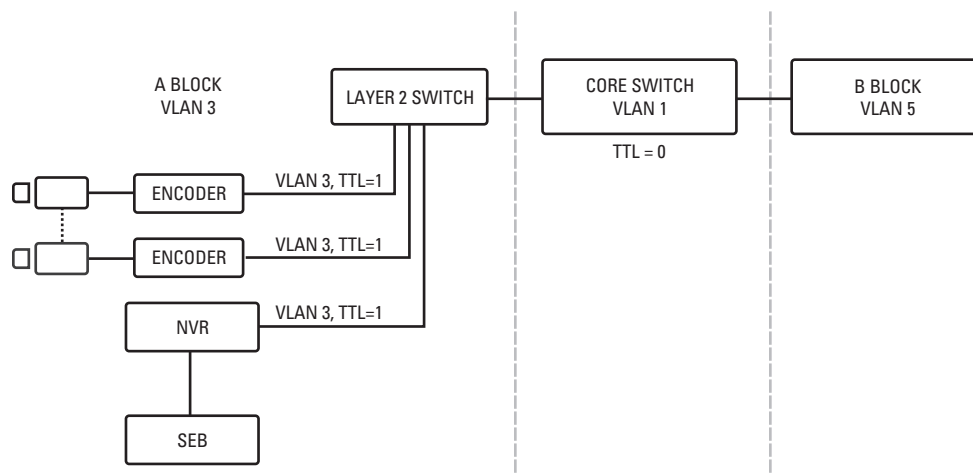

Figure 3. TTL Is Set to 1 in VLAN 2 and Keeps UPnP Traffic Within the A Block
- **UPnP traffic:** The TTL is set to 1. In this case, each block is assigned to a specific VLAN, keeping UPnP traffic isolated within that block (refer to Figure 3).
Figure 3 illustrates how the broadcast traffic is localized to A Block 1 in broadcast domain 1. In this case, the broadcast traffic from VLAN 1 never traverses the network because TTL is decremented to 0 at the core switch and the packet is dropped.